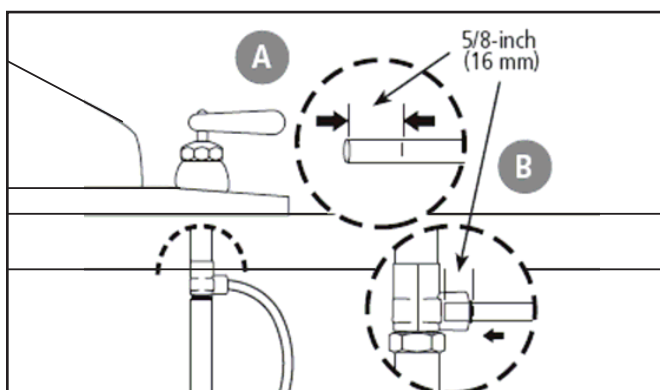

Figure 7
- B) Mark the remaining end of the tubing. Use a marker to mark 5/8 inch from the end. Wet the end of the tube. Insert the end into the white collar fitting on the inlet side (left) of the system. The tube should go in up to the mark (Figure 7).